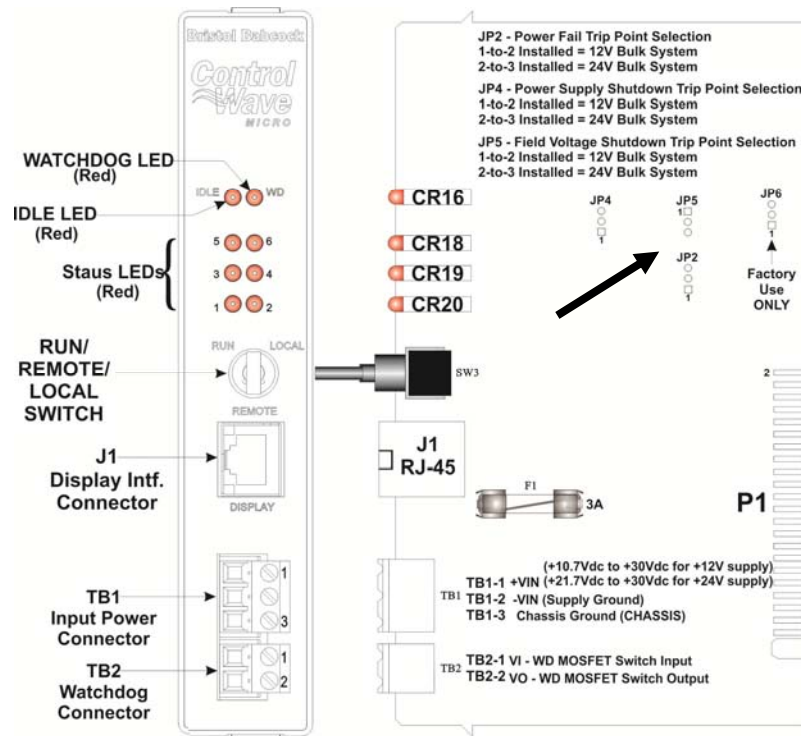
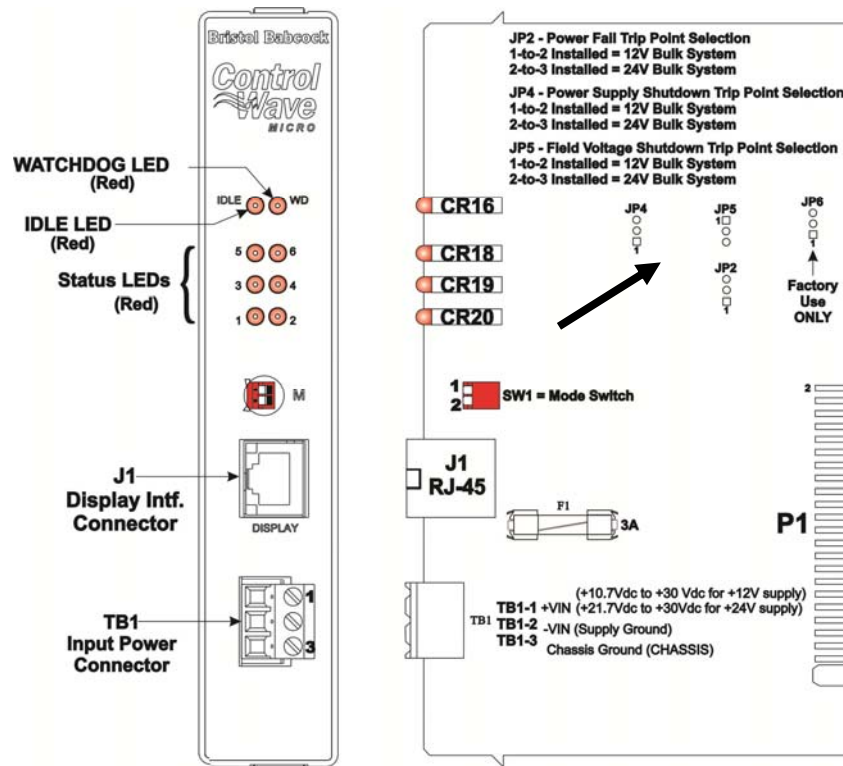

Figure 2-9. PSSM with Run/Remote/Local Switch, Display Interface, and Watchdog Connector
Figure 2-10. PSSM Module with Mode Switch, Display Interface, and without Watchdog Connector
- PSSM with Run/Remote/Local Switch & Display Interface (model 396657-01-0, Revision A and above) (see *Figure 2-9*)
- PSSM with Mode Switch SW1 & Display Interface (model 396657-02-8 without Watch Dog, Revision A and above) (see *Figure 2-10*)
Two terminal blocks (see *Figure 2-9*) provide external input power and watchdog connector switch connections. Two red LEDs on the PSSM's front panel enable you to monitor the status of the watchdog (WD) and Idle (IDLE) circuits.
The power supply operates from +10.7 to +30 Vdc or from +21.7 to +30 Vdc. You can configure the nominal input supply configuration (12V or 24V) using configuration jumper switches on the PSSM PCB. See *Figure 2-9* and *Figure 2-10*.
The PSSM has three jumpers which you set based on whether your bulk DC power supply will provide +12V or +24V. See *Figure 2-9* or *Figure 2-10* to locate the jumpers on your version of the PSSM.
The version of the PSSM shown in *Figure 2-10* has a DIP switch that controls whether the PSSM operates in Local Mode or Recovery Mode.
The version of the PSSM shown in *Figure 2-9* includes an optional watchdog connector. The purpose of the watchdog connector is to